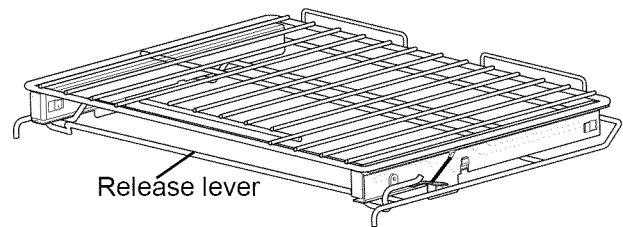

Figure 1 - Extendable glide rack with release lever in locked position
1. Lift up on the release lever located across the lower front of the rack, as shown in figure 1.